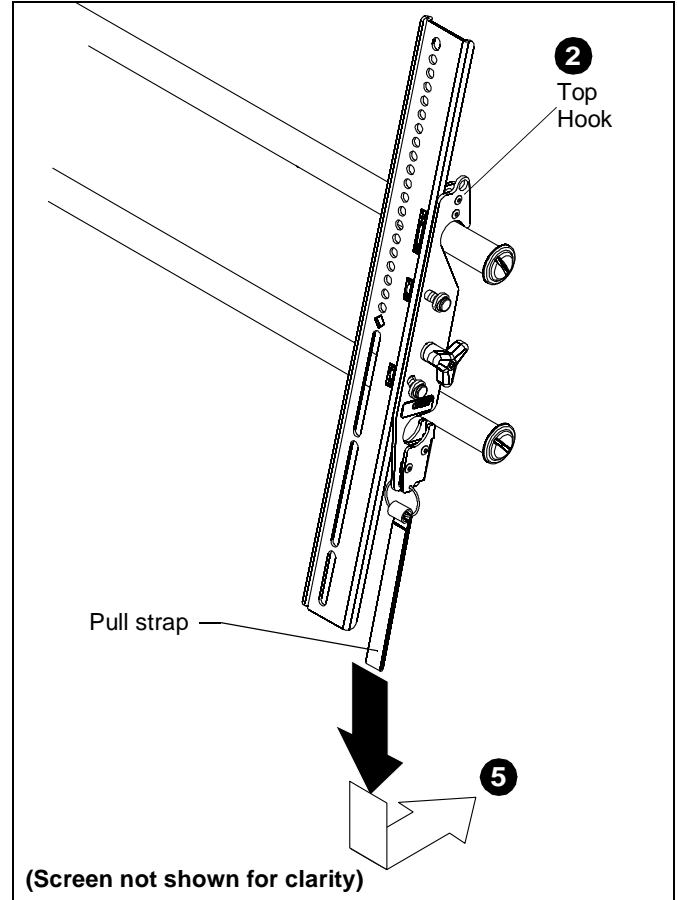

Figure 8
2. Hang top hook of interface brackets onto the top bar of the mount. (See Figure 8)
5. Pull downward on the pull straps and swing inward toward wall, latching interface brackets to lower bar and locking bottom of screen to the mount. (See Figure 8)